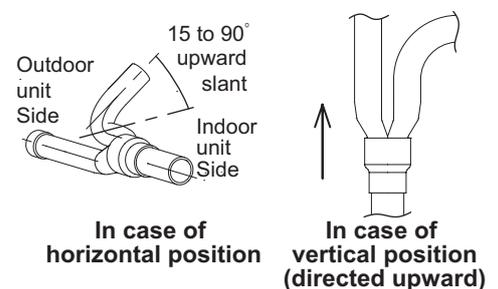

Fig. 2-11
- The distribution joint can be either horizontal or vertical. (Fig. 2-11)